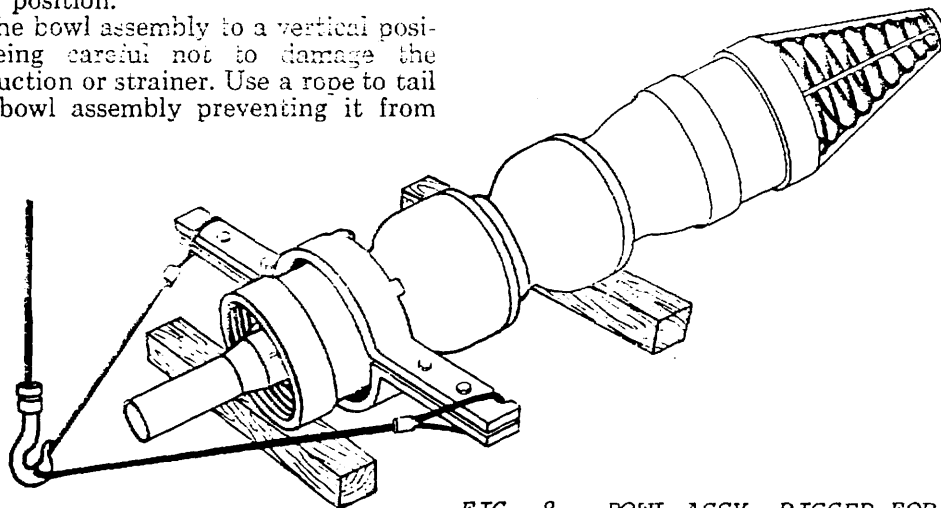

FIG. 8 - BOWL ASSY. RIGGED FOR LIFTING
3. Install a friction clamp to the upper end of the bowl assembly beneath a convenient shoulder. Attach a cable sling to the friction clamp far enough out on the ears to allow removal of the sling after the friction clamp is resting on the setting beams. Also, make sure that the sling is long enough for the load hook to clear the shaft protector when the bowl assembly is uprighted. See Fig. 8. Leave the short piece of protective tubing (oil-lube pumps) or column pipe (water lube pumps) installed until after the bowl assembly has been hoisted to the vertical position.